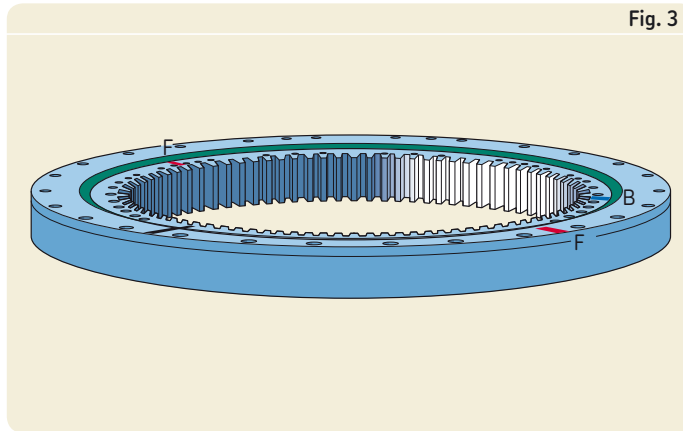

Fig. 4
All bolts and nuts should be tightened with a highly accurate torque wrench (→ fig. 4) or a hydraulic bolt tensioner (→ fig. 5) in at least two stages as described in the section "Mounting recommendations" (→ fig. 38). SKF recommends that whenever possible, the bolts should be tightened using an HYDROCAM hydraulic bolt tensioner. This hydraulically operated bolt tensioner enables bolts to be installed accurately without applying torque. The tensioner also enables
- 4 Position the bearing on the first support surface. The **red marking F** on the ring must be arranged at a 90° angle to the axis of the maximum loaded zone, provided that the axis can be determined or estimated (→ **fig. 4**).